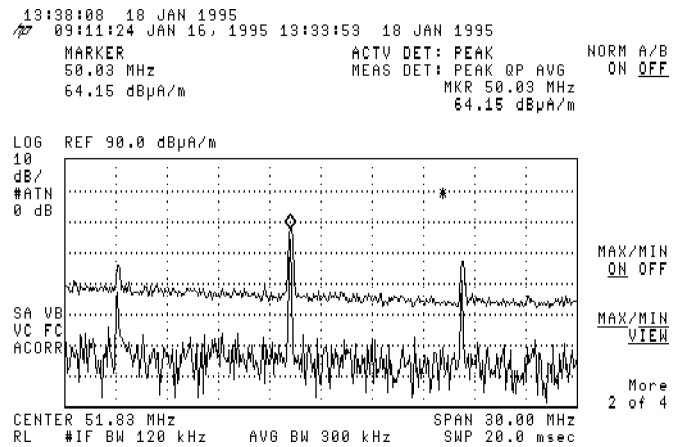

Figure 7-7. Signals viewed with MAX, MIN, VIEW.
23. Toggle **MAX/MIN VIEW** between MAX, MIN and VIEW to view max-held, min-held, and both signals on the display. Refer to Figure 7-7.